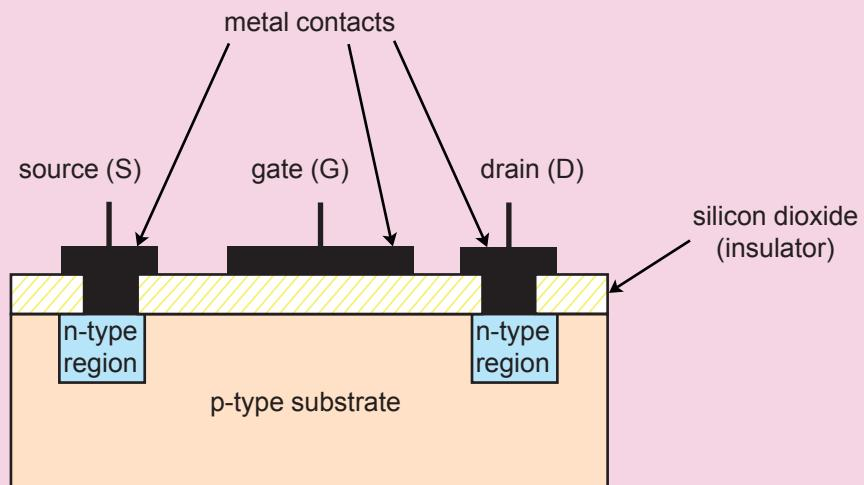

Figure 9.38 Basic internal structure of an n-channel MOSFET
Figure 9.38 shows the basic internal structure of an n-channel enhancement-mode MOSFET. It consists of a slab of p-type semiconductor (called the substrate) and two n-type regions. These two n-type regions form the source (S) and drain (D) terminals. When a positive voltage is applied at the gate (G) terminal, a conducting channel is formed in the substrate, linking S and D. A current can then flow from D to S.